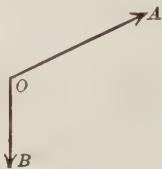

FIGURE 531.
9. In Figure 531,  $OA$  and  $OB$  represent velocities of 4 mi/hr and of 2 mi/hr respectively.  $OA$  shows the direction of a man's effort in rowing a boat diagonally upward across stream, while  $OB$  shows the direction of the current of the stream. Show the resultant direc-